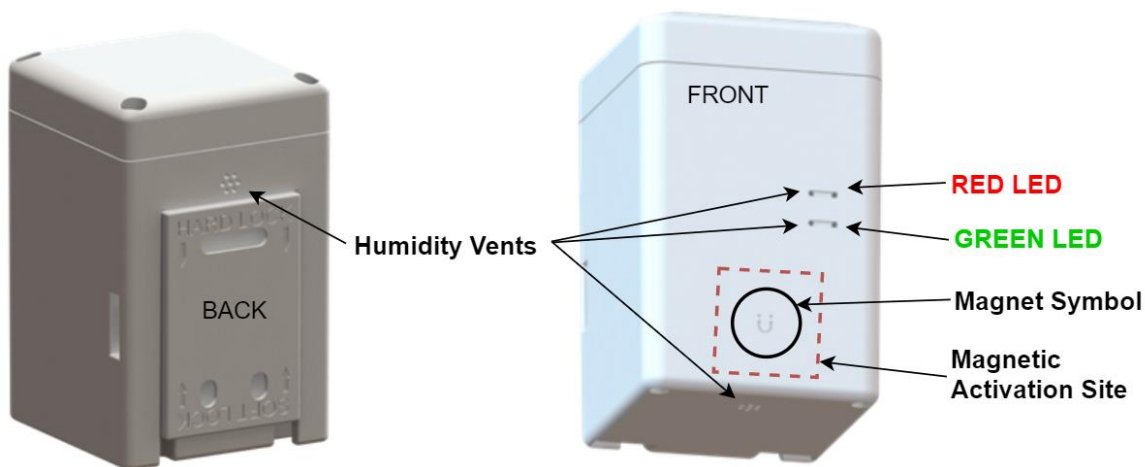

Figure 2-2: STORK Enclosures and External Interfacing
1. Place magnet for **3 to 10 seconds** against the enclosure at the magnetic activation site as shown in Figure 2-2 below.